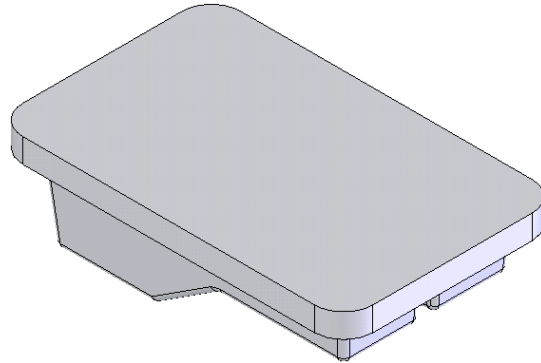

Figure 17-45 Resultant core
11. Extrude the sketch up to the knitted surface and hide the Plastic Cover. Figure 17-45 shows the resultant core extracted from the Plastic Cover.